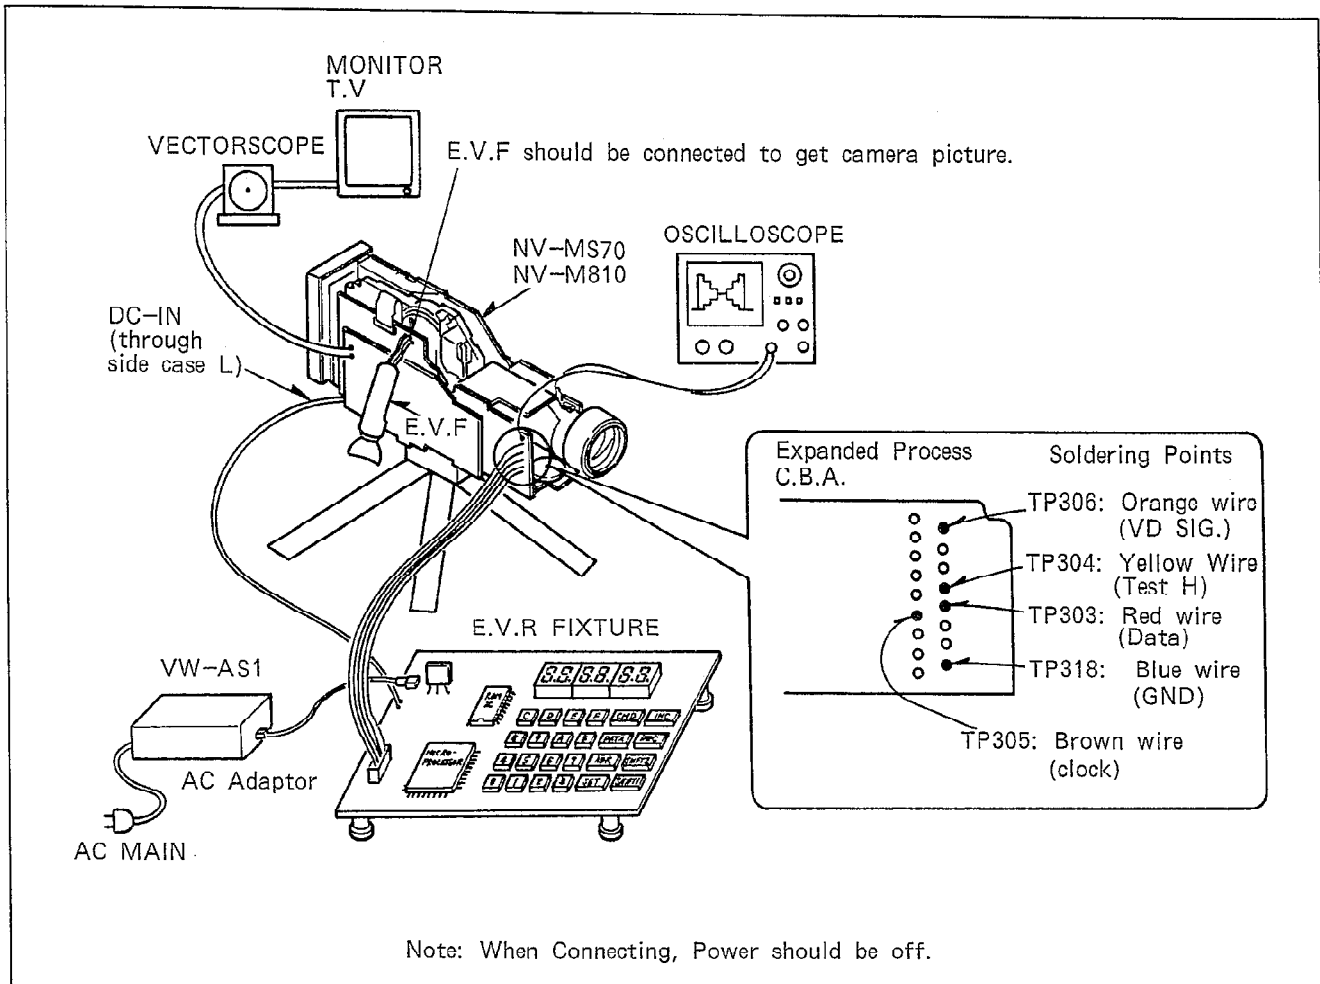

Fig. C6
- 1) Remove both side case (R) and (L) referring disassembly method.
- 2) Connect the E.V.R. FIXTURE and measuring equipments as shown in Fig. C6.
Connect the E.V.R Fixture as shown in Fig. C6 and perform the "Initial setting" (Pushing "SHIFT 1" key and "1" key together).